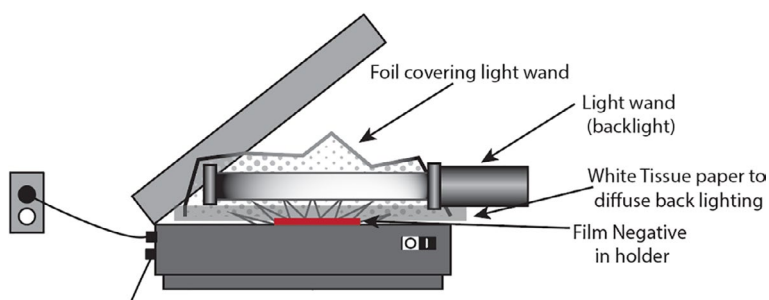

Figure 1-13. *An illustration of how I worked with my scanner when it would not allow me to scan the film*
- Placed a thin white tissue paper in between the film and light wand to diffuse any light glare. Refer to Figure 1-13.